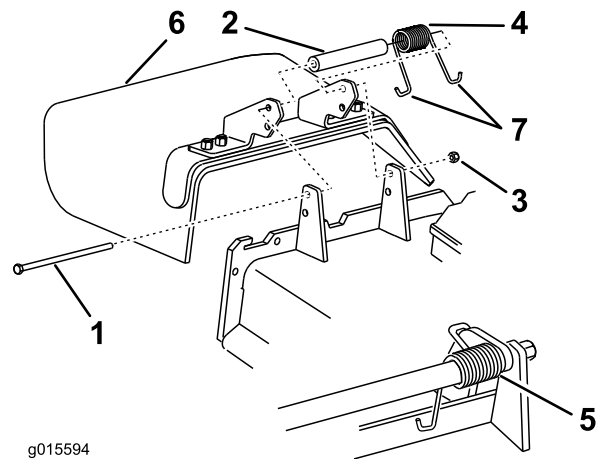

Figure 95
- Remove the locknut, bolt, spring and spacer holding the deflector to the pivot brackets (Figure 95). Remove damaged or worn grass deflector.
Note: Make sure one J end of spring is installed behind deck edge before installing the bolt as shown in Figure 95.
- Install bolt and nut. Place one J hook end of spring around grass deflector (Figure 95).